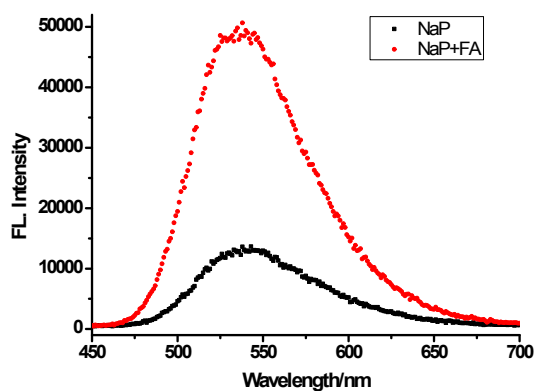

Fig. S1 Two-photon fluorescence emission of the probe NaP before and after treatment with FA. Excited at 820nm.
2. Fig. S1. The two-photon fluorescence emission spectra-----	S3